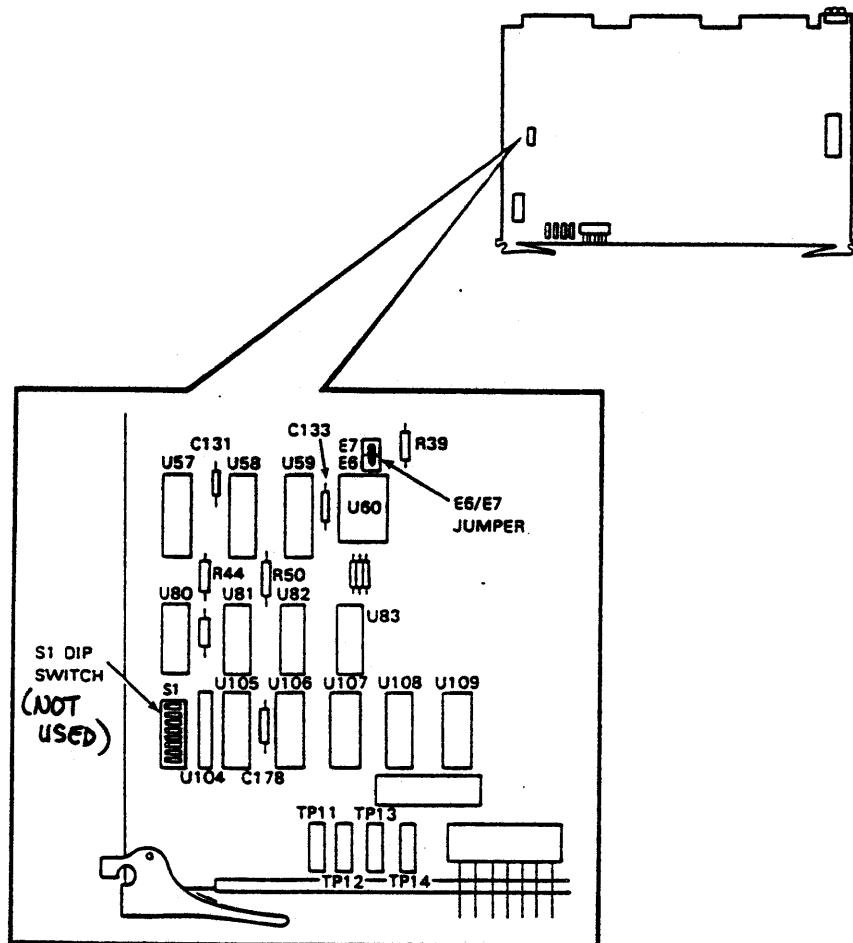

Figure 4-22 Processor Module Clock Jumper and Dip Switch
- Jumper between E6 and E7 is always in place (Refer to Figure 4-22).